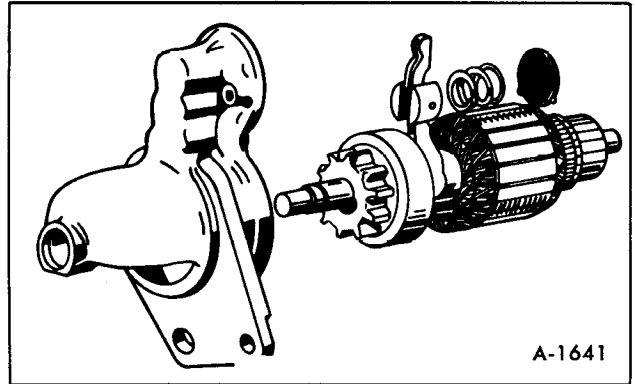

Figure 52—Removing Armature
4. Remove the armature from the front bracket. Simultaneously, the shift lever the lever spring and the spring holder will be removed (figure 52).